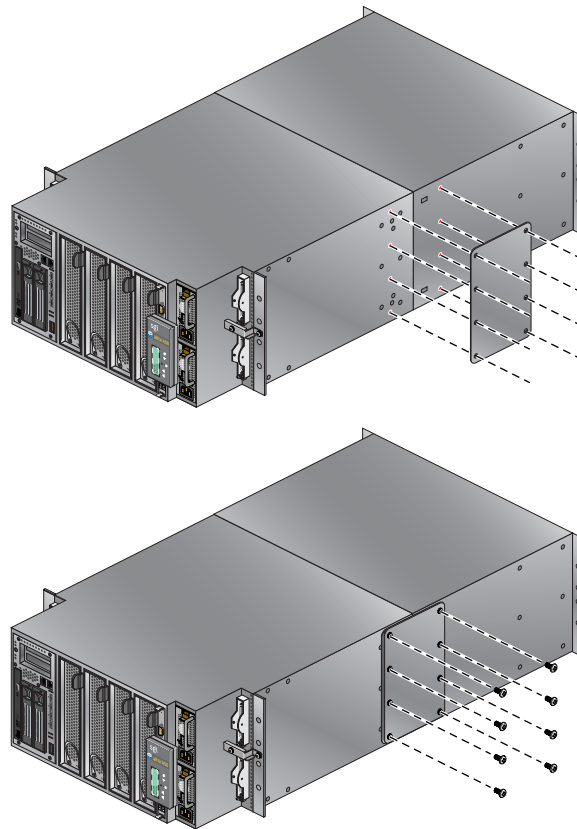

Figure 1-10 IRU Connection Plate for Desktop Systems
2. Align the right side joining plate screw holes with the eight holes in the two adjacent modules. See Figure 1-10 for an example.